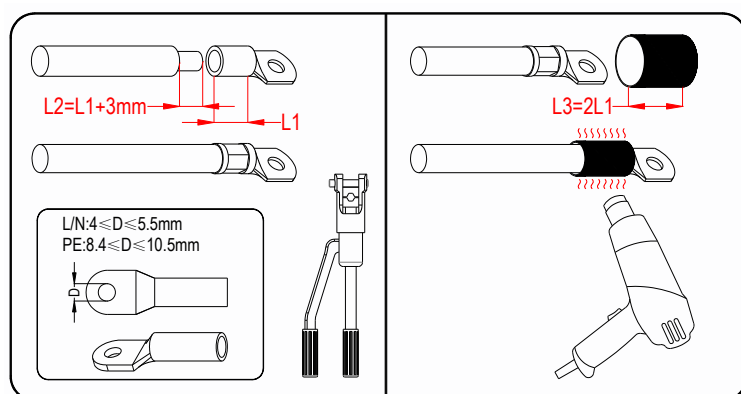

FIG 5-14 Crimp DT/DTM Terminals
Step 4: Process the cable cores: select suitable terminal blocks (recommended types DT or DTM) -> crimp terminals -> use heat shrink tubings, as FIG 5-14.